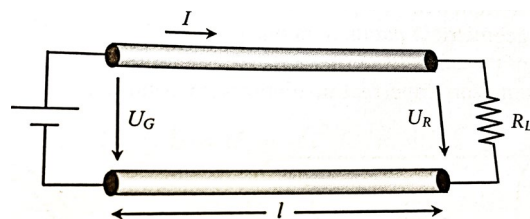

Figure 1
(a)[12 marks] In a two-wire transmission line of Figure 1, the two identical cylindrical conductors of length 45 m, radius 0.5 mm run parallel. The centre-to-centre separation between the conductors is 4.5 mm. The surrounding medium is air.
- (iv) [2 marks] Draw an electric circuit showing the resistance, capacitance, and inductance (all units in per meter) of the two-wire system of Figure 1.